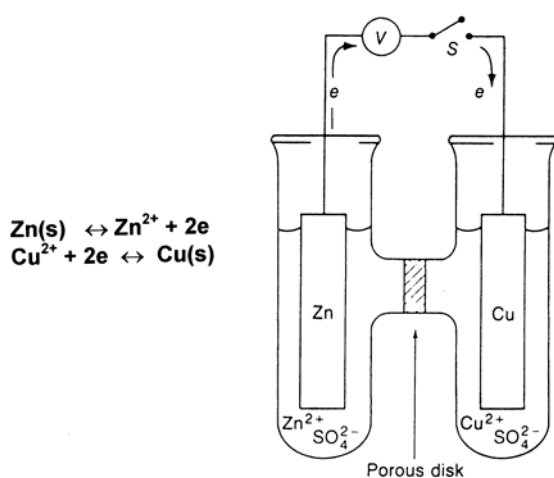
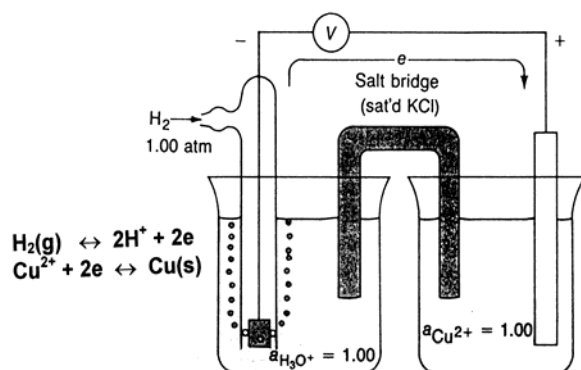

Figure 1 Galvanic cell
Figure 2 Standard electrode potential definition
The flow of electrons from Zn(s) to Cu²⁺ can be monitored if the two half-reactions are physically isolated from each other. Such an arrangement is shown in Figure 1 and is called galvanic or electrochemical cell. The anode of the cell is the electrode at which oxidation occurs (Zn), while cathode is the electrode at which reduction takes place. The cell can be considered to comprise two half-cells.
It is obvious from Figure 1, that the potential of an electrode can be measured only against another half cell. An electrode potential is defined as the potential of a cell consisting of the electrode in question acting as cathode and a standard hydrogen electrode acting as anode.
Figure 2 illustrates a reference hydrogen electrode and a copper electrode for measurement of the electrode potential for the half-reaction given in Equation (2). Here instead of a porous disc, as in Figure 1, a salt bridge (a tube containing gelatin and saturated KCl) is provided to allow migration of negatively charged SO_4^- from copper half cell and positively charged H^+ from hydrogen half cell to maintain electrical neutrality.
Calculate the cell potential for the cell shown in Figure 1. Assume that the reactants are at standard condition.
Calculate cell potential for the cell shown in Figure 1 when the activities of Zn^{2+} and Cu^{2+} are 0.1 and 0.01 mol/L.